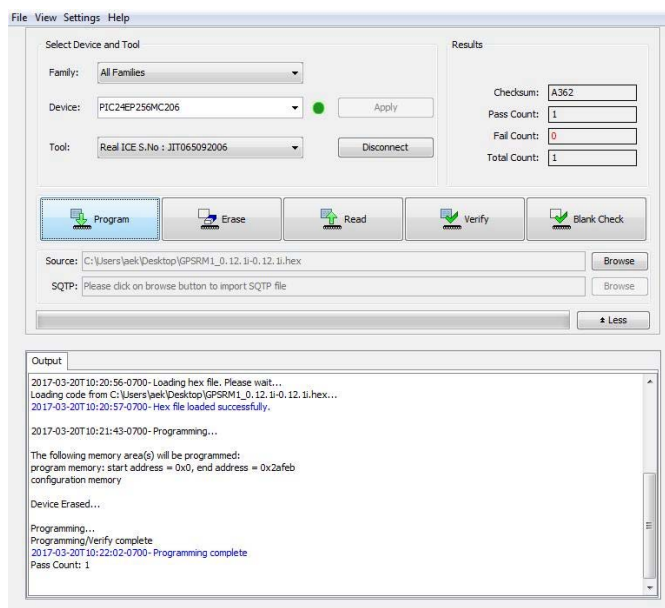

Figure 15: MPLAB IPE after successfully reprogramming GPSRM 1
5. Click on the Program button and the IPE will (re-)program the GPSRM 1's SupMCU with the selected firmware. A successful reprogramming with an interim release is shown in Figure 15.